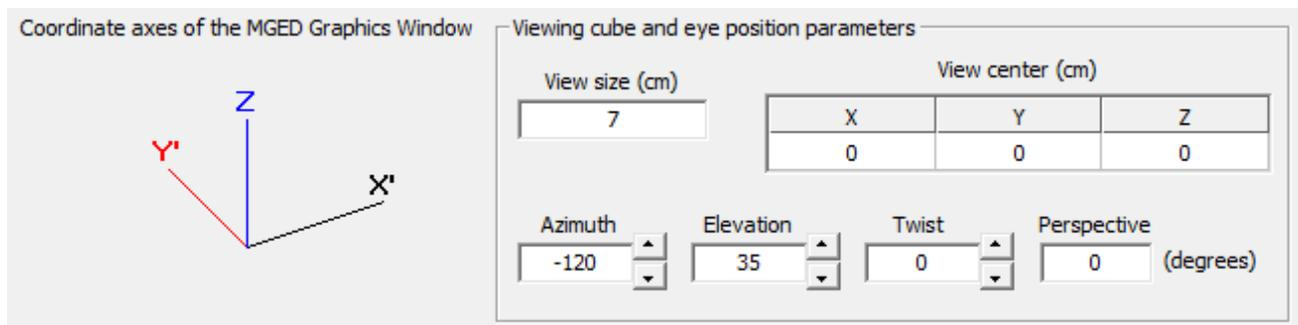
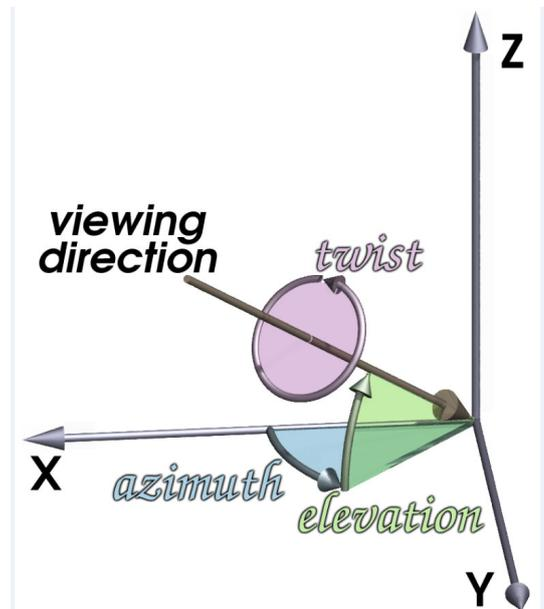

Fig. 6.1. Viewing cube and eye position parameters.
Fig. 6.2. The meaning of azimuth, elevation and twist angles (this diagram was found at <http://brlcad.org/gallery/diagrams/diagram>).
The term “viewing cube” is used in the MGED documentation when referring to the square MGED display. It represents the part of the 3D “world” seen by the user. The size of the viewing cube and the position of its center are controlled by the text box “View size” and the three-cell grid control “View center” (see Fig. 6.1). All sizes and coordinates are specified in centimeters. Since the edges of the viewing cube are aligned with the viewing direction (or “eye position”), three additional angles (azimuth, elevation and twist) must be provided for complete definition of the viewing cube in terms of the Cartesian coordinate system used for defining dimensions and positions of all 3D objects composing the simulation setup. The meaning of those three angles is illustrated in Fig. 6.2. They must be entered in three text boxes titled “Azimuth”, “Elevation” and “Twist” (see Fig. 6.1) in degrees (either manually, or in 5-degree increments using the nearby spin controls). The mentioned three angles determine the directions of the coordinate axes as seen in the MGED Graphics Window. Those directions are shown in the picture that is to the left of the group
“Viewing cube and eye position parameters” (see Fig. 6.1). If an axis title is shown with the prime symbol, this means that the positive half-axis is below the projection plane.
The text box “Perspective” (see Fig. 6.1) is used to set the perspective angle. Perspective makes the 3D image more realistic by making the receding parallel lines appear to be non-parallel. The possible values of the perspective angle are from 0 to 90°. The default value is 0 (no perspective). This value is recommended for easiest interpretation of complex images. **Note:** The “perspective” parameter is the only graphical parameter that is not applied when the RT script created by MCNScript is loaded using the MGED menu command “File / Load Script...”. It is applied only when the script is loaded using the MGED command “source”, or pasted into the MGED Command Window, or when the perspective angle is set manually using the MGED command “set perspective”.
- The command “**ae**” is used to get or set the values of the azimuth, elevation and twist angles (see Fig. 6.2 in Section 6.1). If this command is entered without any parameters, then the current values of the mentioned three angles will be displayed in the command window (in degrees). In order to set the angles, they must be listed after “ae” in the same order as mentioned above. For example, in order to set azimuth to  $90^\circ$ , elevation to  $35^\circ$  and twist to  $20^\circ$ , the following command should be entered: “ae 90 35 20”. In GUI mode, the current values of the azimuth, elevation and twist angles are always shown at the bottom of the MGED Command Window, after “az=”, “el=” and “tw=”, respectively (see Fig. 5.1).